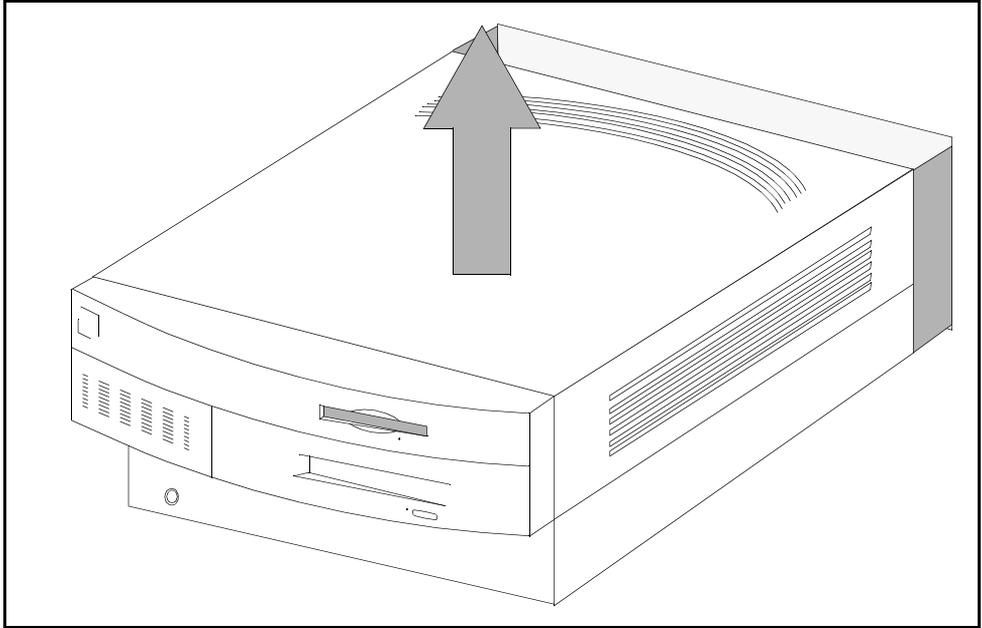

Figure 2.6 - Removing the Cover
4. Lift the cover straight up to remove it, as shown in Figure 2.6.